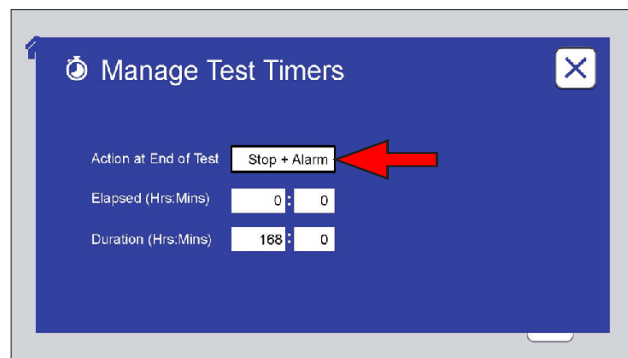
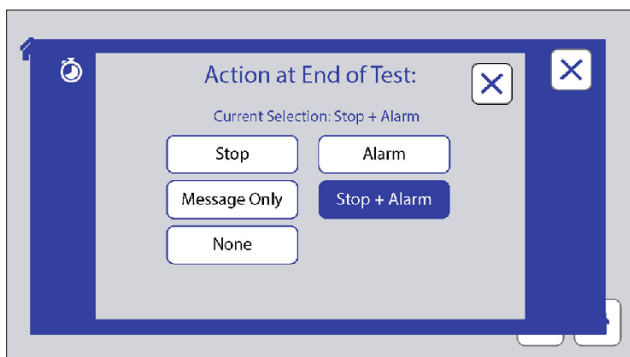

Figure 9.5b: Manage Test Timers screen. Touch the Action at End of Test text box to specify the action.
Figure 9.5c: Action at End of Test screen. Touch an action button to select that action.
1. Specify what action the tester should perform at the end of a test (Figure 9.5b and Figure 9.5c).